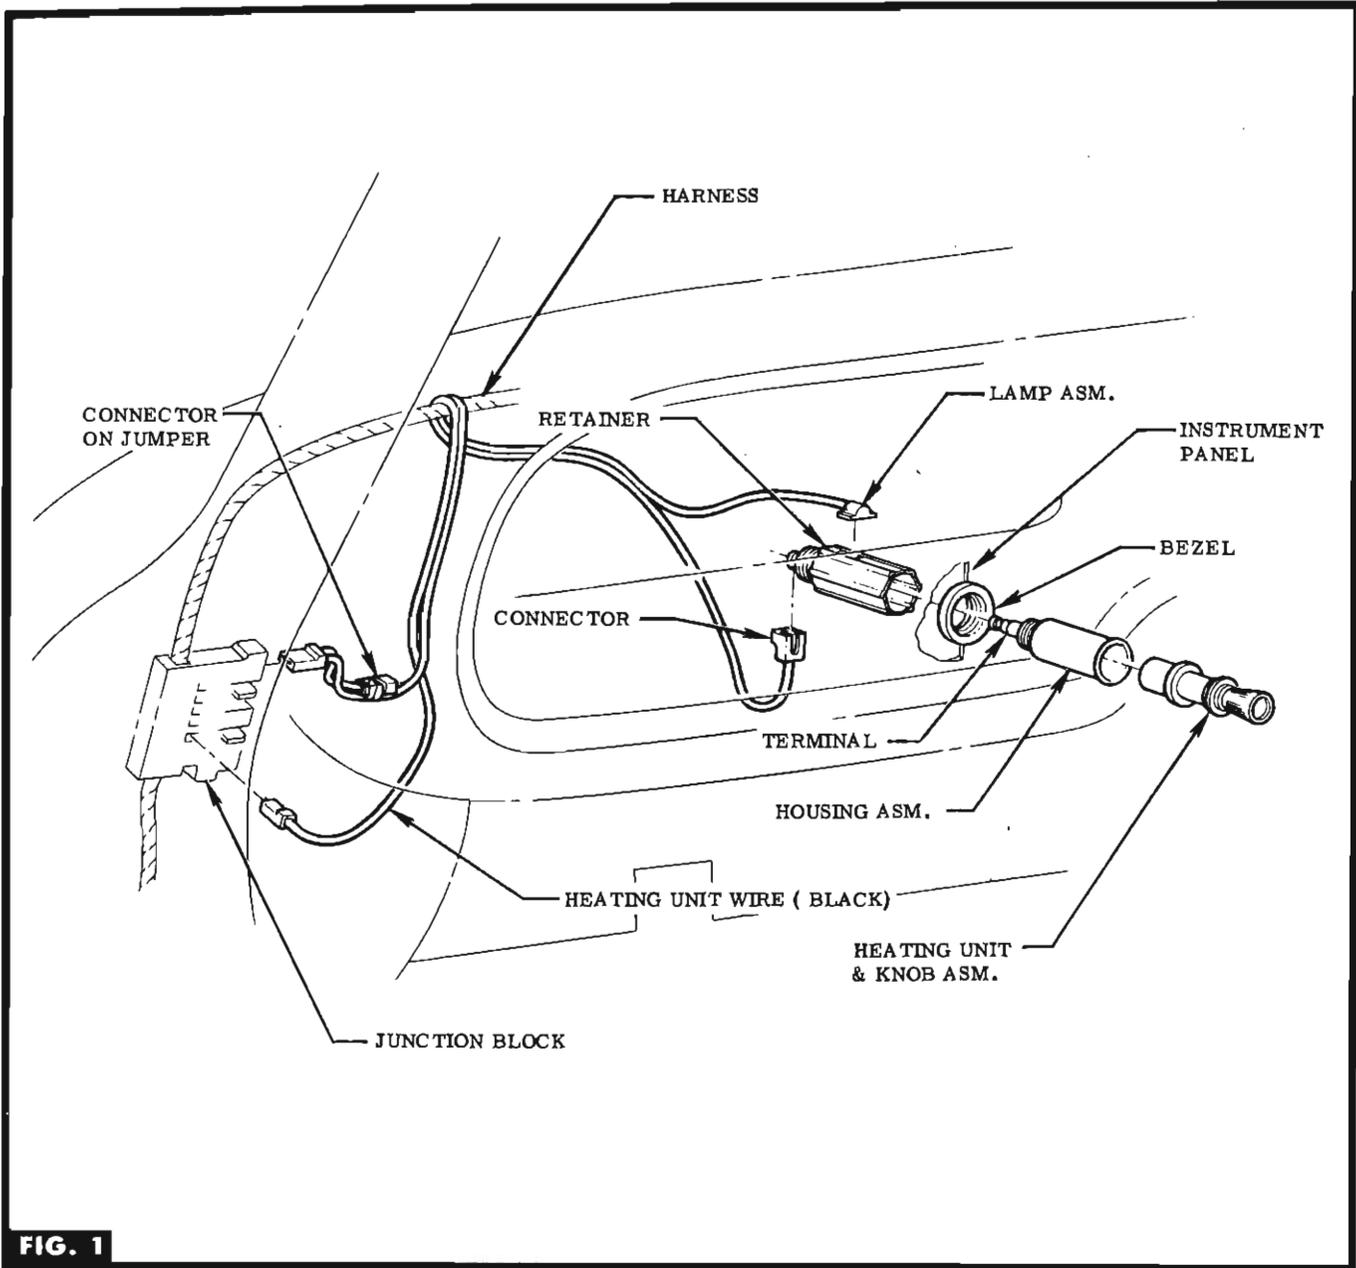

FIG. 1
STEP 2 INSERT HOUSING THRU BEZEL & HOLE IN INSTRUMENT PANEL & SECURE WITH RETAINER. PLUG HEATING UNIT INTO HOUSING. SEE FIG. 1.